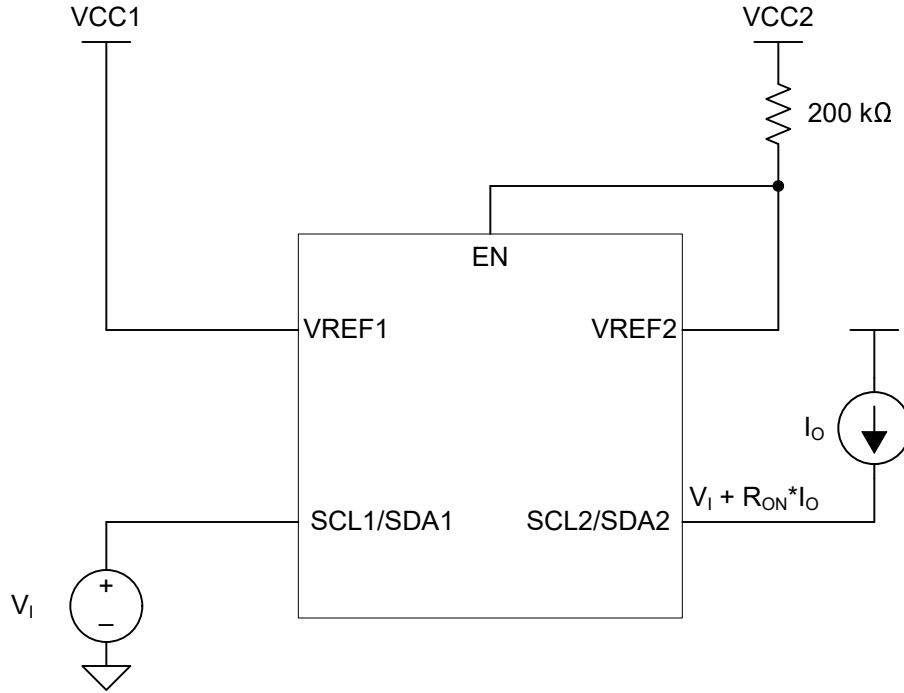

图 7-3. Application Setup for R_{ON} Delay
(5) Measured in application connected current source configuration only. See 图 7-3